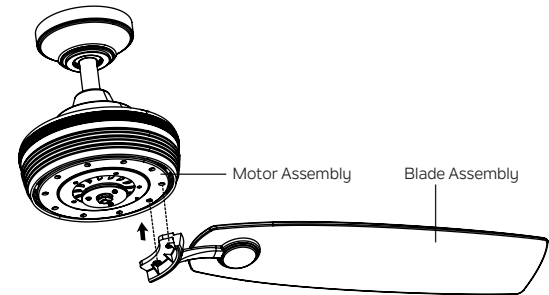

Fig. 19
Step 2. Fasten blade assembly to the holes located on the bottom of the motor assembly. Tighten the two pre-installed motor screws in the blade bracket. (Fig.19)